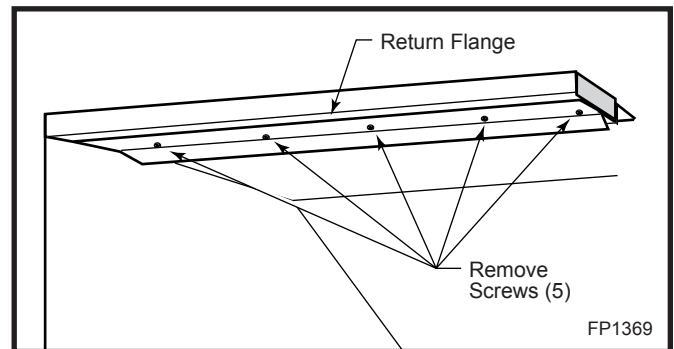

Fig. 40 Remove five (5) screws securing heat shield in place.
- Using a Phillips or Robertson screwdriver, unfasten the two (2) screws holding the fettle to the burner assembly. With a wrench, remove the front burner tube by unfastening the two (2) nuts that secure the burner tube to the front of the burner assembly.
- Using a Phillips or Robertson screwdriver, remove the heat shield located toward the front top of the fire box by unfastening the five (5) screws that secure the heat shield in place. (Fig. 40)